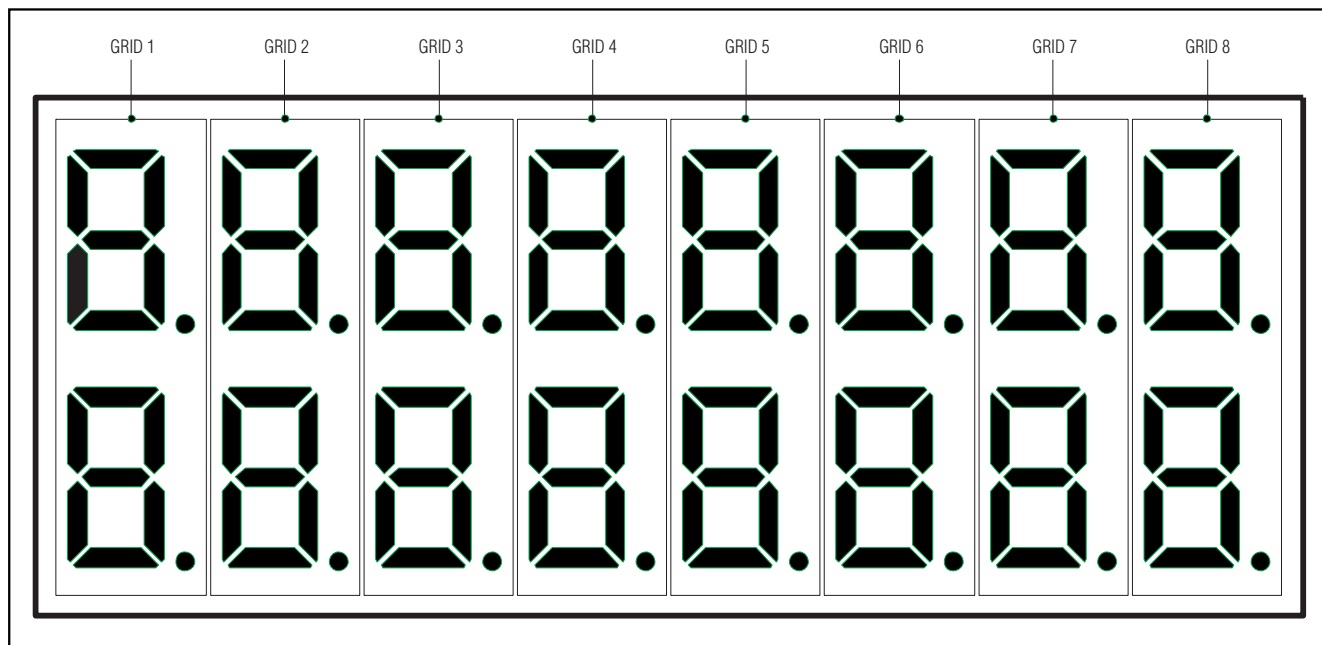

Figure 2. Example of a Two-Digit-per-Grid Display
- Multiplexed displays with two digits per grid, and up to 48 grids (in 96/2 mode). Each grid can contain two 7-, 14-, or 16-segment characters, two DP segments, and two cursor segments. No annunciator segments are supported (Figure 2).